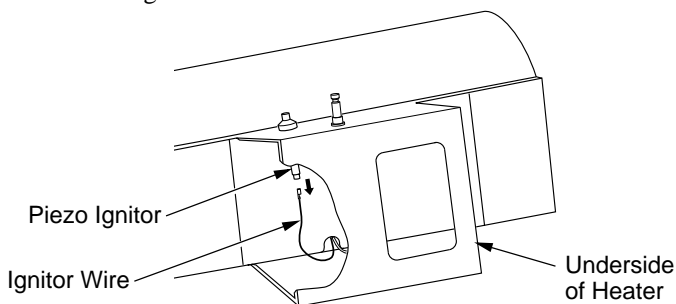

Figure 13 - Removing Ignitor Wire from Piezo Ignitor
2. Remove black ignitor wire from piezo ignitor. Access ignitor wire through underside of heater base (see Figure 13). Push wire up through notch in filler panel.